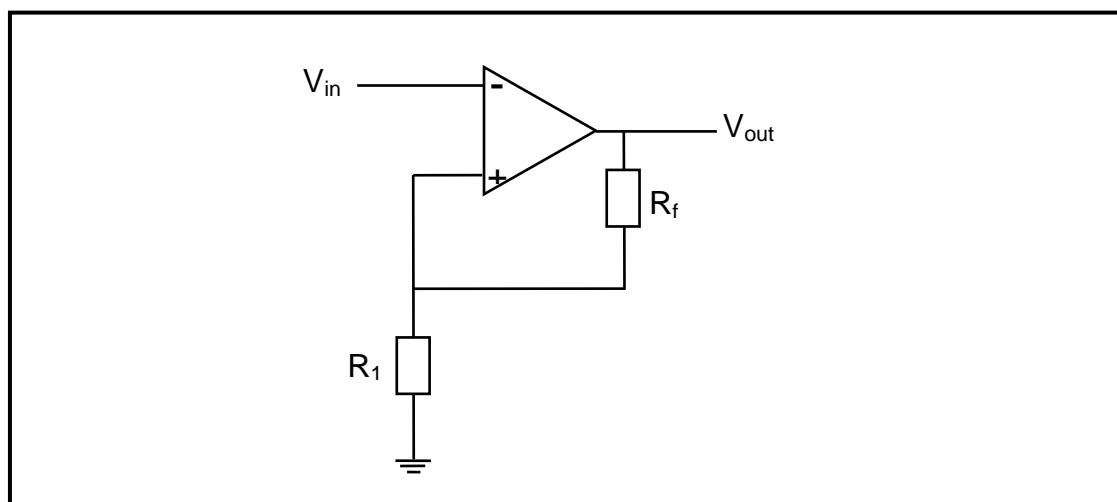

FIGURE 7.2: INVERTING SCHMIDT TRIGGER
7.7 Study FIGURE 7.2 and answer the questions that follow.
7.7.1 State TWO applications of the op-amp circuit in FIGURE 7.2. (2)